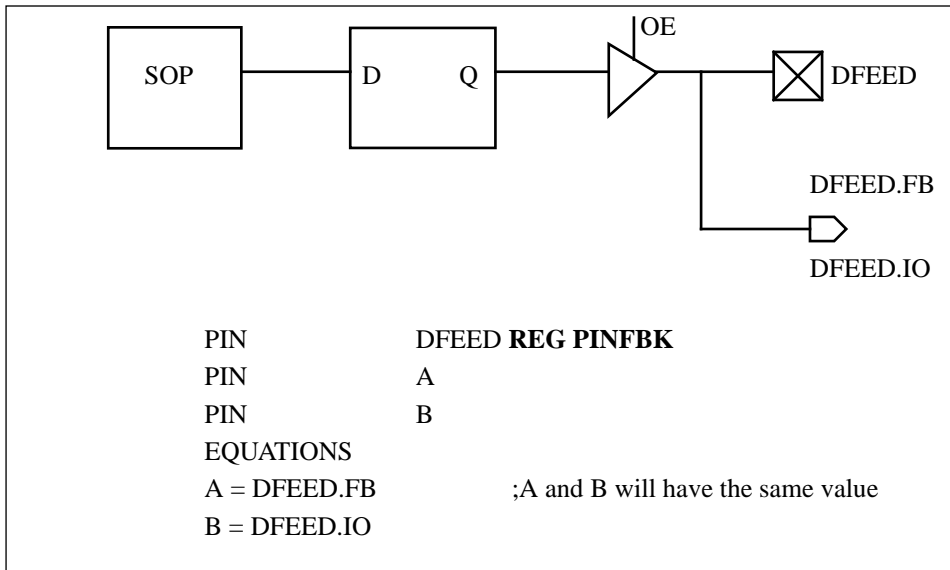

Figure 4-14 Pin Feedback
- Figure 4-14 shows Output A and B taking on the value of the pin feedback path for DFEED. *This is the default configuration for a combinatorial output.*